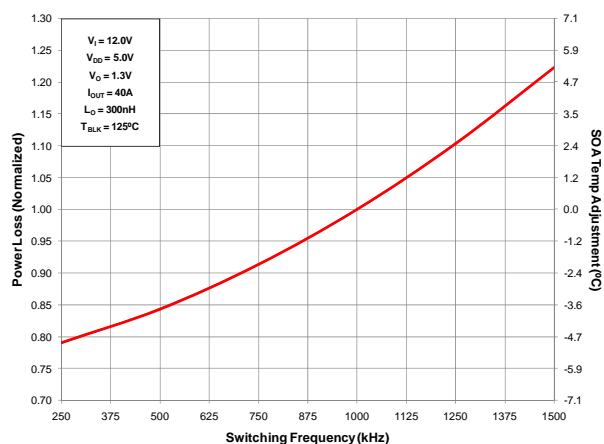

Figure 7 Normalized Power Loss vs. Switching Frequency
| (Figure 7) | Normalized power loss for switch frequency ≈ 0.91 |
- (Figure 7) SOA temperature adjustment for switch frequency $\approx -1.9^{\circ}\text{C}$